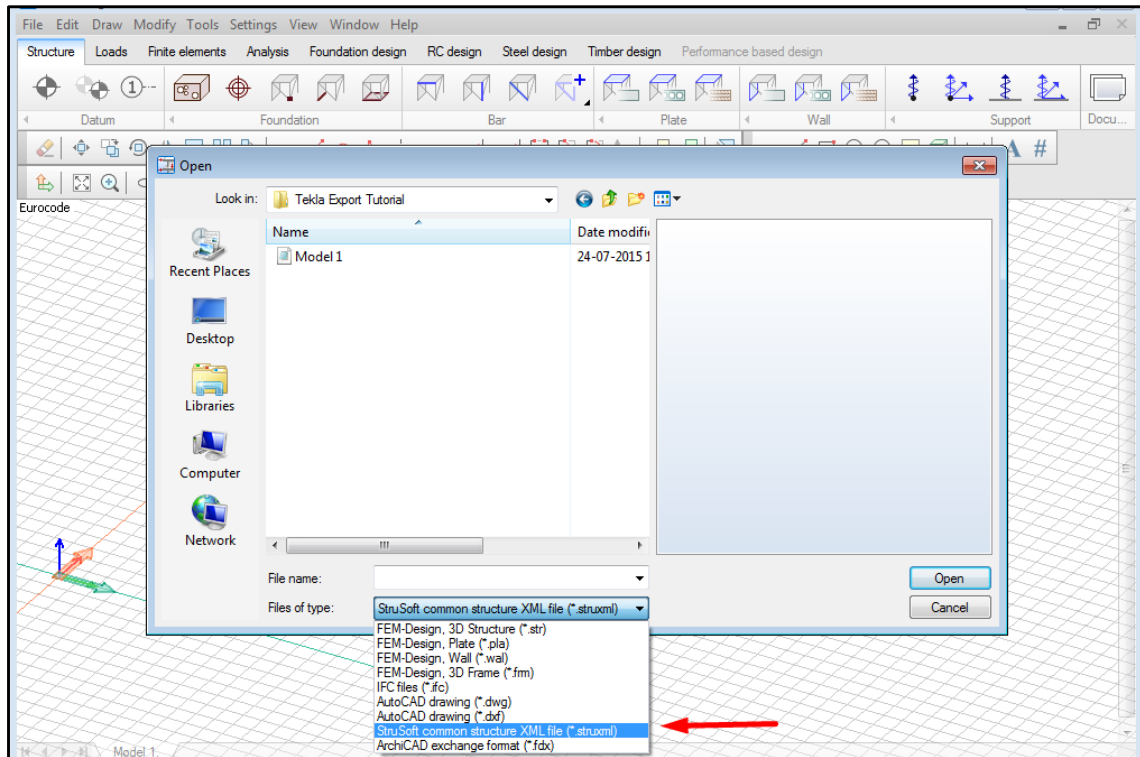

Figure 3-22
- Go to *File* → *Open* and browse for the struxml file type, as shown in Figure 3-22.